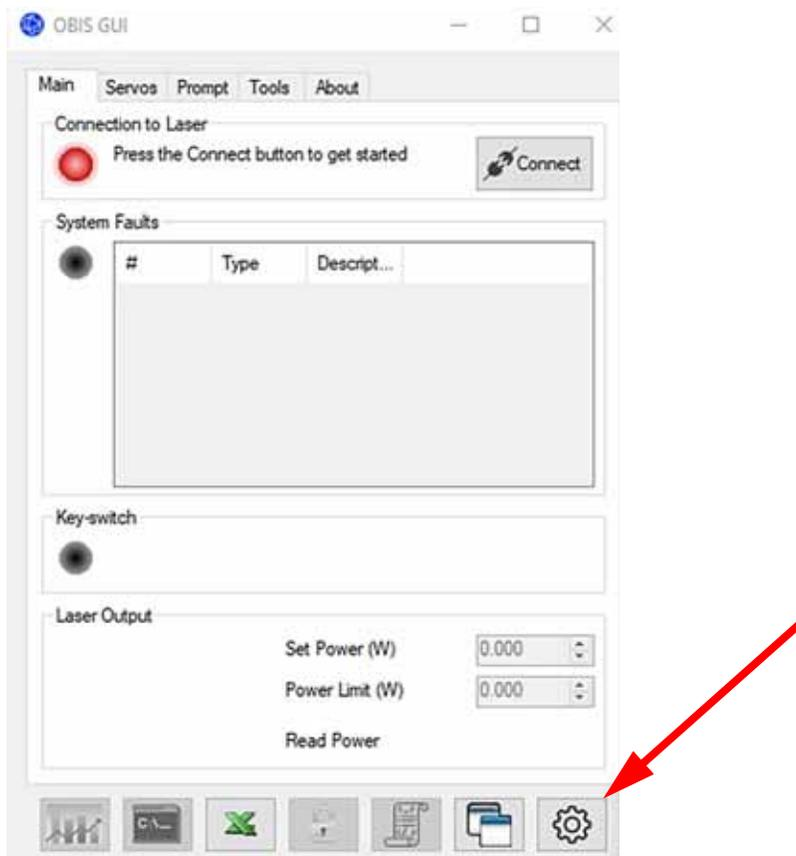

Figure 8-2. Open the GUI
1. Open the Coherent GUI (see Figure 8-2).